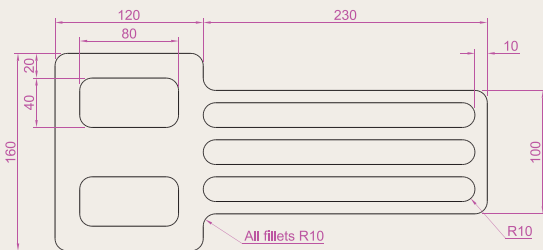

Fig. 5.46 Exercise 1
1. Construct the drawing given in Fig. 5.46. All parts are plines of width = 0.7 with corners filleted R10. The long strips have been constructed using **Circle**, **Polyline**, **Trim** and **Polyline Edit**. Construct one strip and then copy it using **Copy**.